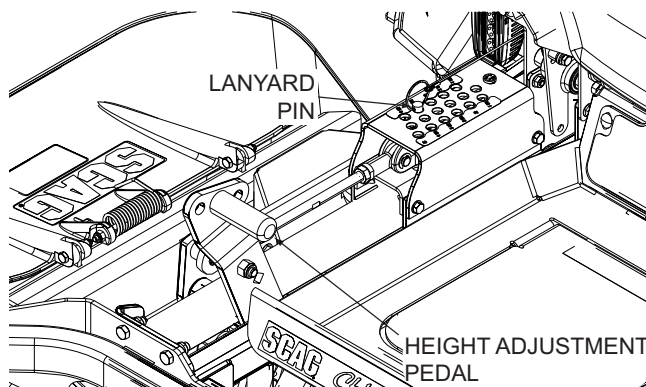
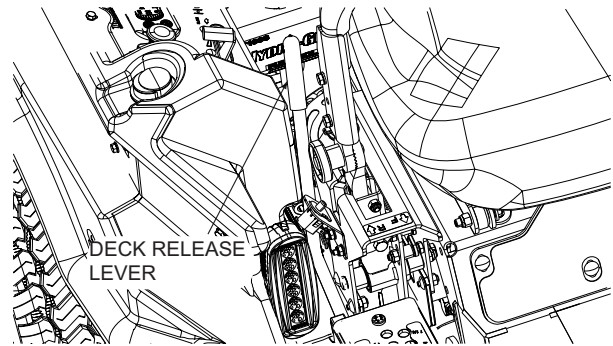

Figure 4-6. Adjusting Cutting Height
Figure 4-7. Deck Release Lever
- Push the cutting height adjustment foot pedal all the way forward using your right foot until it locks in place. See Figure 4-6.
- Insert the lanyard pin into the cutting height index at the desired cutting height. Push forward on the deck lift foot lever, hold in place and pull back on the deck release lever. See Figure 4-7. Slowly release the foot pedal. A deck height decal is located on the cutting height index as an aid in adjusting the deck to the desired height. See Figure 4-6.